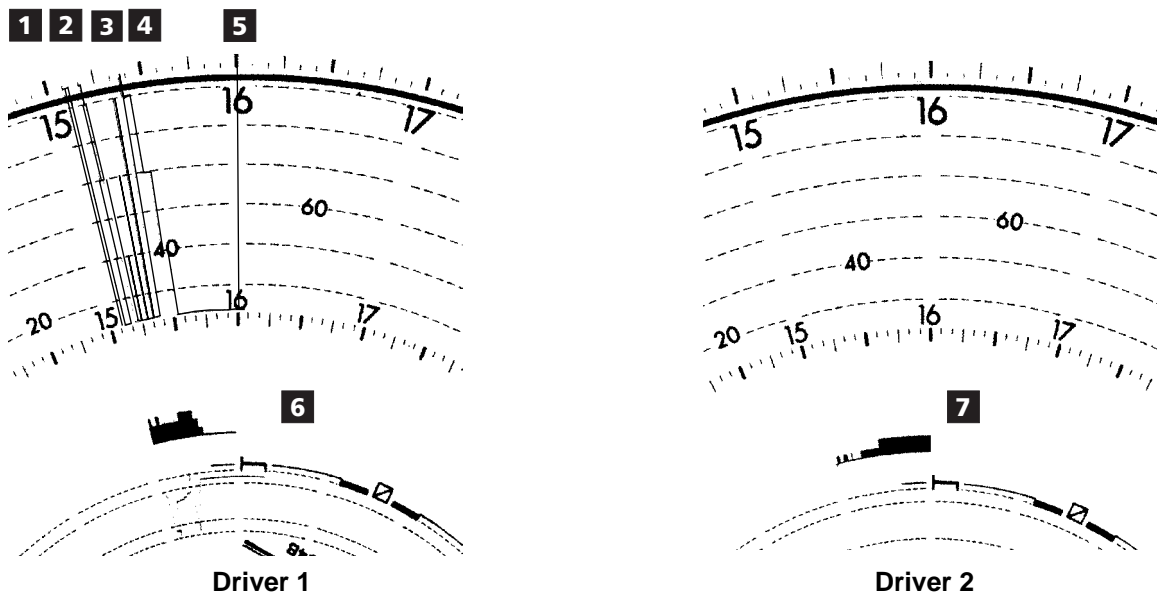

Fig. 5-19: Test chart recordings
- Programming cable (**1**, **Fig. 5-19**)